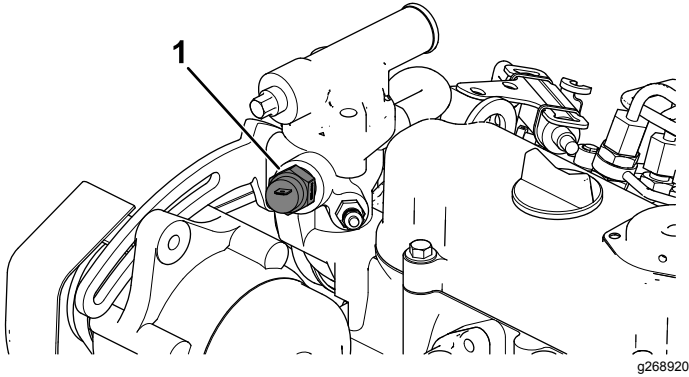

Figure 14
- A. Remove the temperature switch from the thermostat housing (Figure 14).